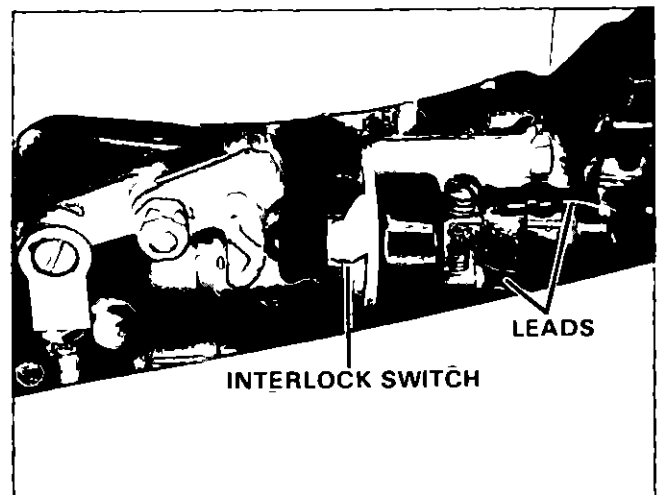

Figure 60. Connecting Leads to Interlock Switch.
- 1 Connect red lead from starter switch to top terminal on interlock switch and secure with lockwasher and screw. Figure 60. Connect red lead